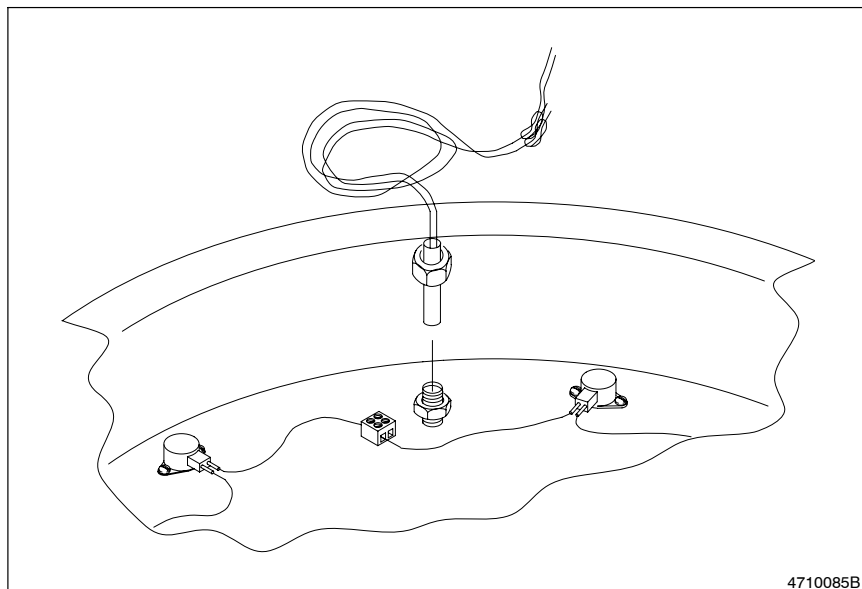

Fig. 7-8 Preparing to Route the Replacement RTD Wires
2. See Figure 7-8. Place the new connector nut from the RTD service kit onto the new RTD. Tie or tape the replacement RTD wires to the old RTD wires, which will be used to pull the new RTD wires through conduit.